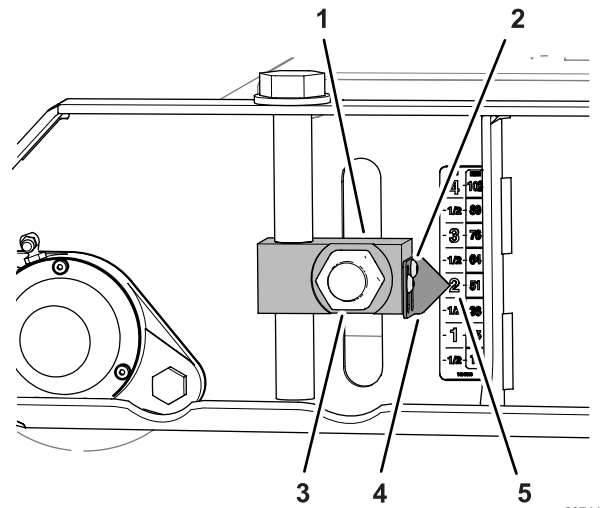
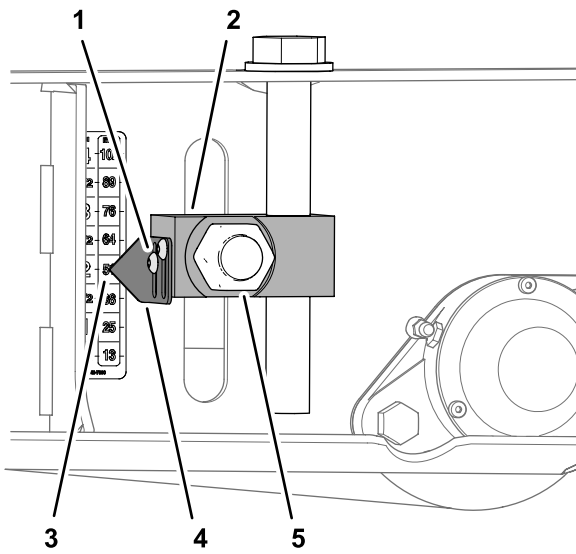

Figure 82
Figure 84
3. Loosen the 2 socket-head screws that secure the pointer to the height-of-cut adjuster block, align the pointer to the 51 mm (2 inches) mark on the decal, and tighten the screws (**Figure 82**).
6. Loosen the socket-head screws that secure the 2 pointers to the height-of-cut adjuster block, align the pointers to the 51 mm (2 inches) mark on the decal, and tighten the screws (**Figure 84**).
7. Torque the 4 nuts that secure the 4 height-of-cut adjuster blocks (Figure 82 and Figure 84) for the front and rear rollers to 322 to 396 N·m (238 to 292 ft-lb).